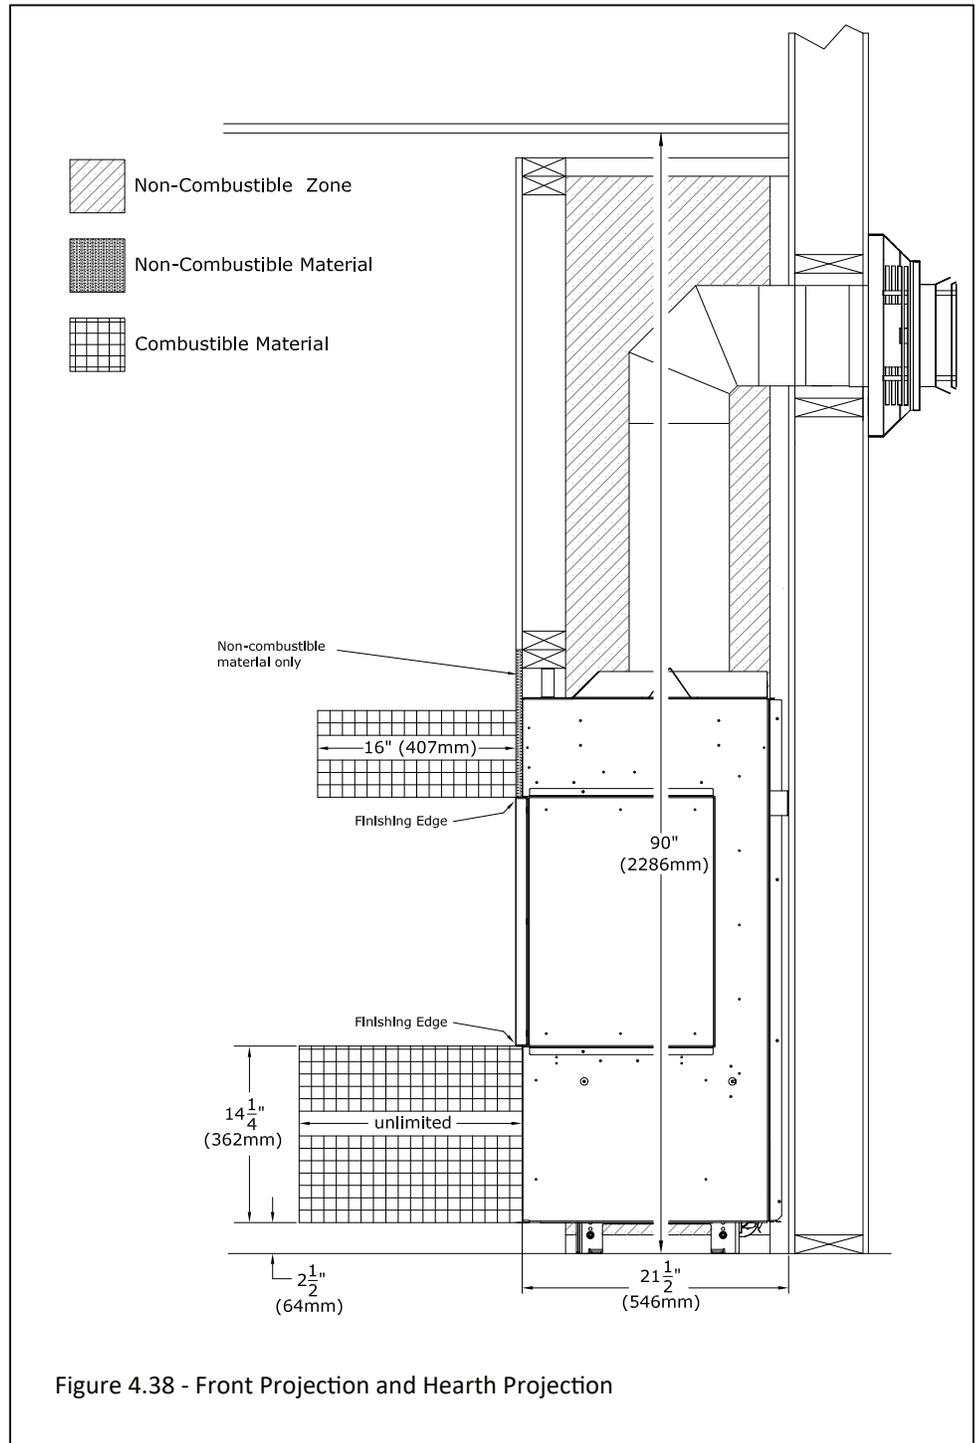

Figure 4.38 - Front Projection and Hearth Projection
- **Combustible Mantel Projections:** A maximum of a 16" (406mm) mantel can be installed flush at the top finishing edge. See Figure 4.38.
- **Combustible Hearth:** Combustible hearth can have an unlimited projection. Hearth can be raised flush to the bottom finishing edge. See Figure 4.38.